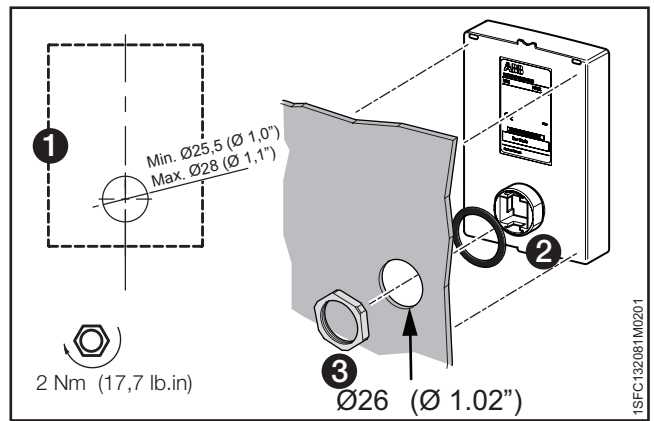

Figure 4.9
1. To remove the movable HMI from the Softstarter, loosen the plastic latch below the movable HMI, see **1** and **2** in **Figure 4.9**.
2. Drill a hole where to attach the movable HMI. Maximum dimension of the hole is $\varnothing 26$ ($\varnothing 1.02$ "), see **1** in **Figure 4.9**. Put the rubber packing around the threaded network connector on the movable HMI, see **2** in **Figure 4.9**. Push the threaded network connector through the drilled hole. See **3** in **Figure 4.9**. Fasten the plastic screw-nut on the threaded network connector, with 2 Nm (17.7 lb/in).